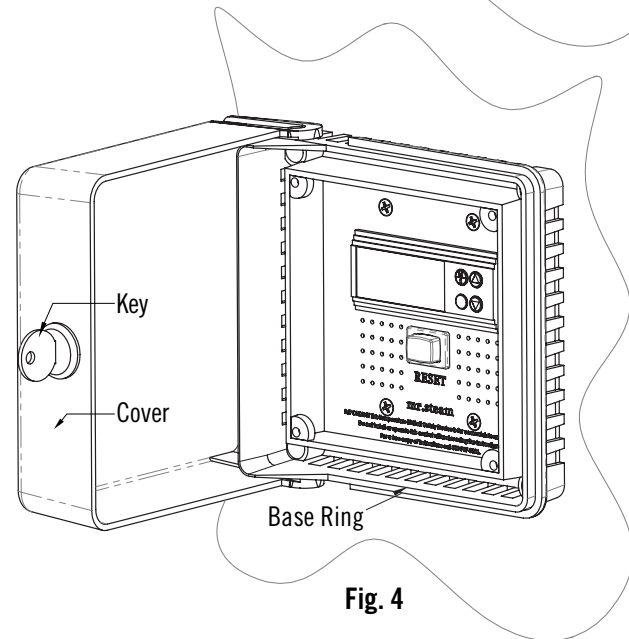

Fig. 4
- Snap Cover back onto Base Ring and lock with key (*included*), see fig 4.